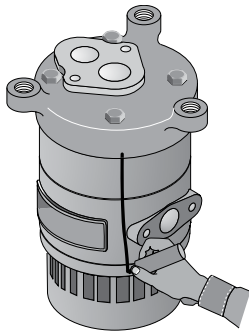

Figure 16
- Step 5. Draw a line down the side of the pump with a marker to help alignment during reassembly. Mark the pump from the motor to the base volute (see Figure 16).